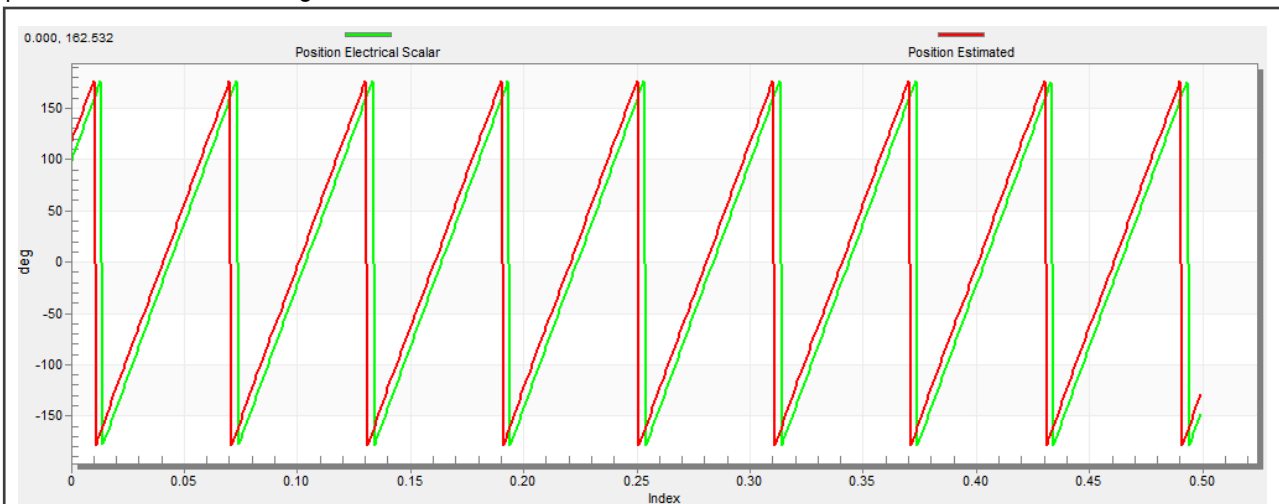

Figure 26. Generated and estimated positions
6. Select the "Position" recorder to check the observer functionality. The difference between the "Position Electrical Scalar" and the "Position Estimated" should be minimal (see Figure 26) for the Back-EMF position and speed observer to work properly. The position difference depends on the motor load. The higher the load, the bigger the difference between the positions due to the load angle.